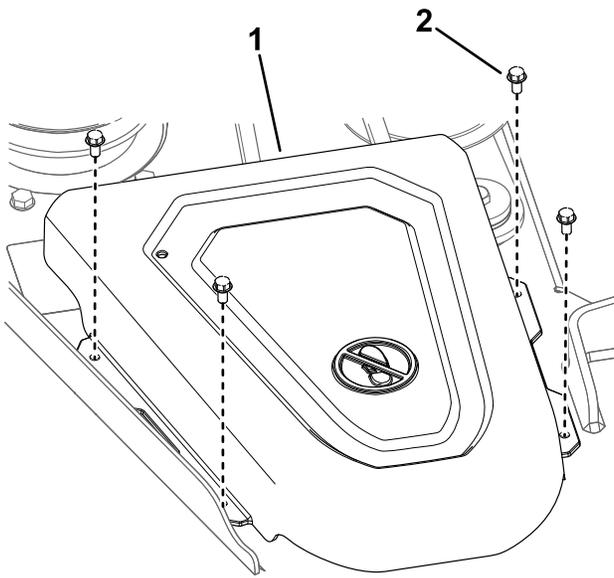

Figure 7
3. Remove the 4 screws securing the right belt cover, and remove the belt cover (Figure 7).